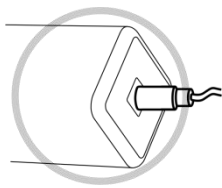
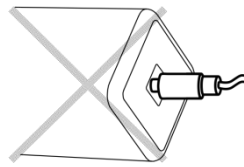

Figure 8B
Figure 8C
- To make sure Sensor Probe works properly show as below pictures, please make sure insert the Remove Sensor Probe tightly "Figure 8B" and there is no any gap allowed "Figure 8C" between 3.5mm jack and housing.